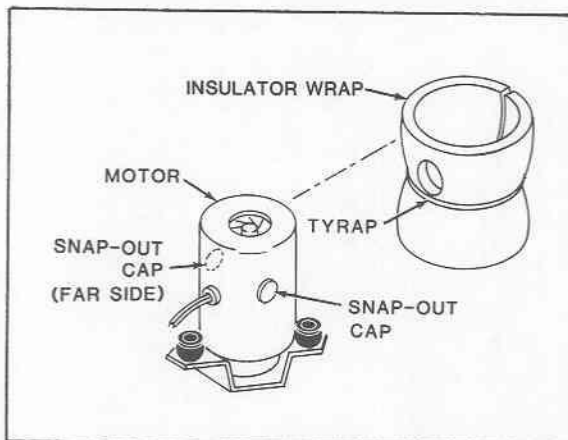

Figure 5-6. Motor Enclosure Snap-Out Caps
- b. Slip sound insulation sleeve with attached cable tie from motor (Figure 5-6).
- c. Use blade of flat screwdriver to pry off two snap-out caps (Figure 5-6)..